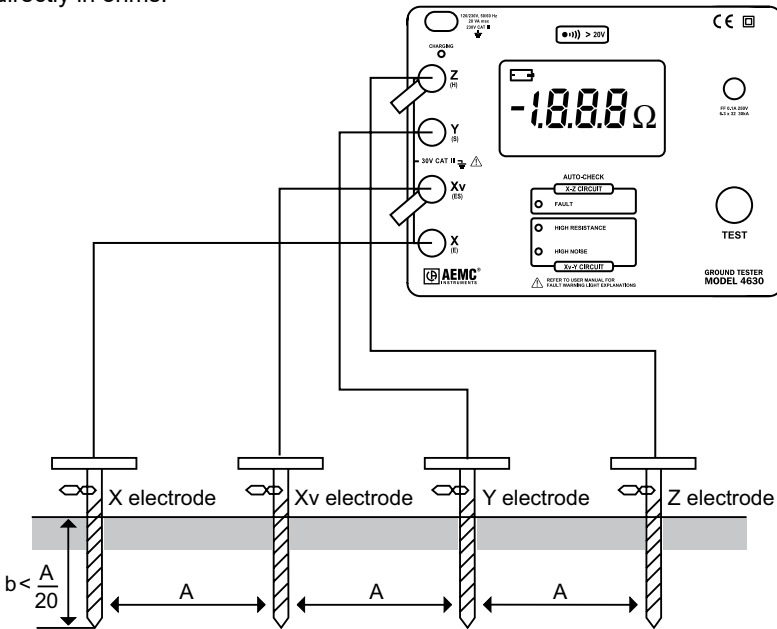

Figure 18
- Example: 20 ft (609.6 cm) between each electrode for auxiliary ground electrodes that will be driven 10 ft deep (See Figure 18).
- Read the resistance level (R) indicated on the display.